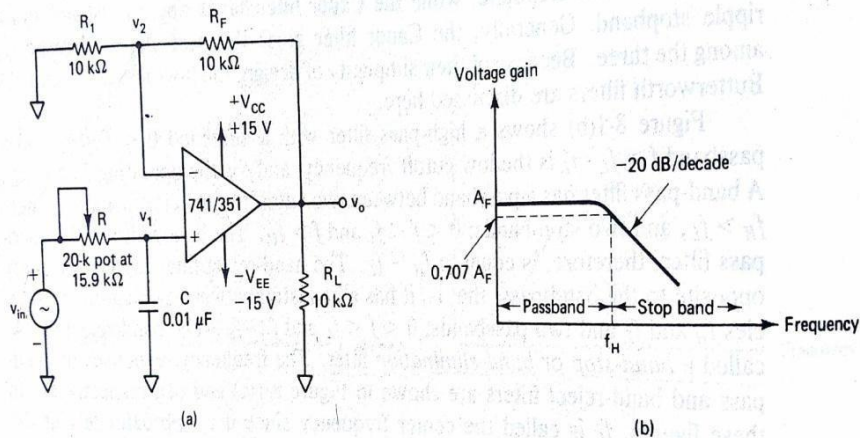

Figure 8-2 First-order low-pass Butterworth filter. (a) Circuit. (b) Frequency response.
- Figure 8-2 shows a first order low pass Butter worth filter that uses an RC network for filtering. Note that the op-amp is used in the non-inverting configuration, hence it does not load down the RC network. Resistors R_1 and R_f determine the gain of the filter.
- At f_H , the gain is $0.707 A_f$, and after f_H it decreases at a constant rate with an increase in frequency [see fig 8-2 b]
The complete circuit with components values is shown in Fig 8-2 a.